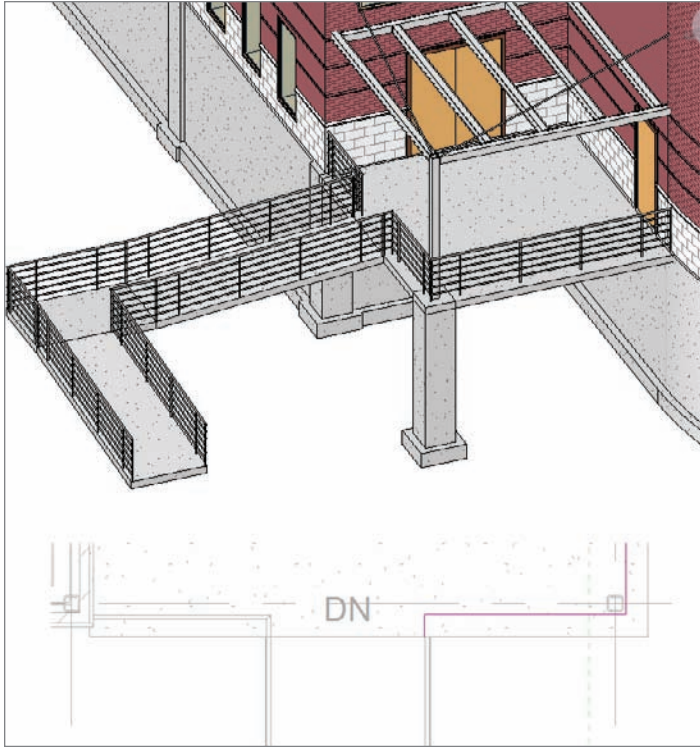

FIGURE 10.87 Adding the railing just as you have been doing this entire chapter
5. Draw a railing in 8" from the slab edge, as shown in Figure 10.87.